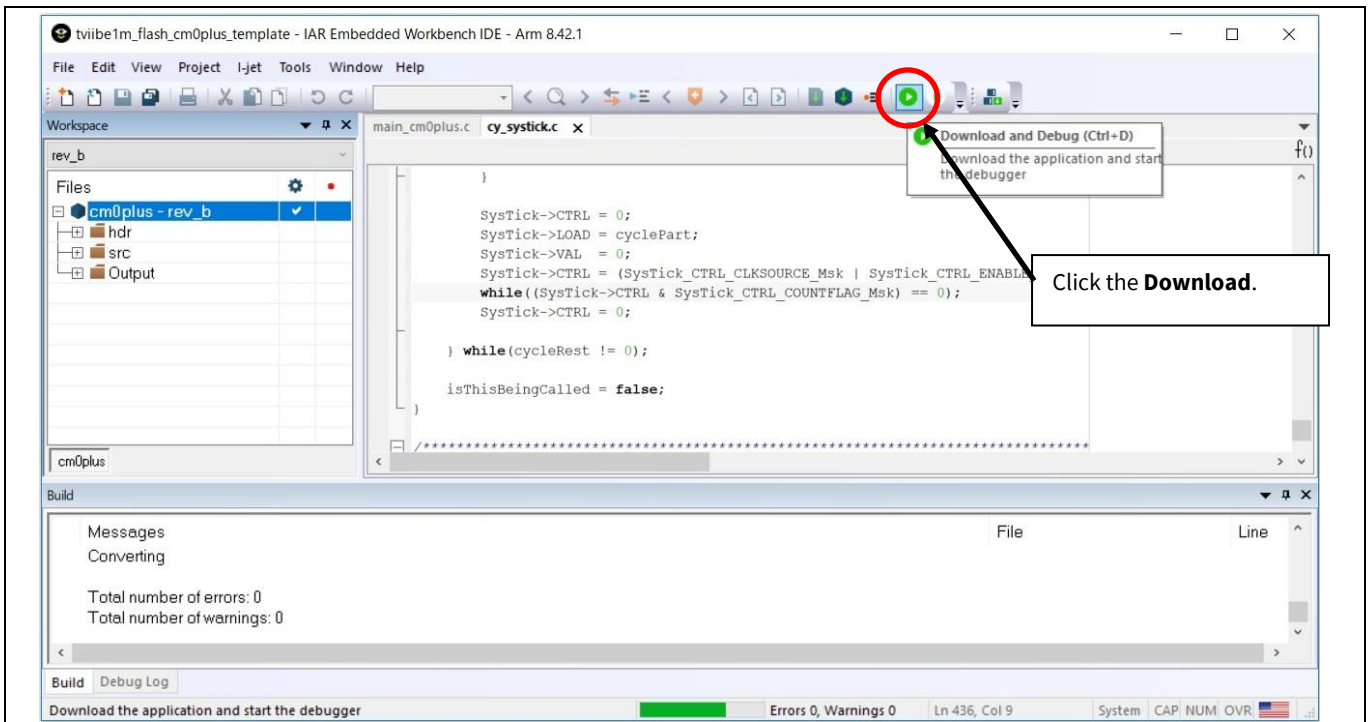

Figure 28 Debug the Project of SDL Project
When these operations are performed, both CM0+ programs will be in the program running state and debugging will be possible as shown in **Figure 28**. The board LED starts blinking.
3. To load the program to the Flash memory, click the **Download** icon as shown in **Figure 28**.